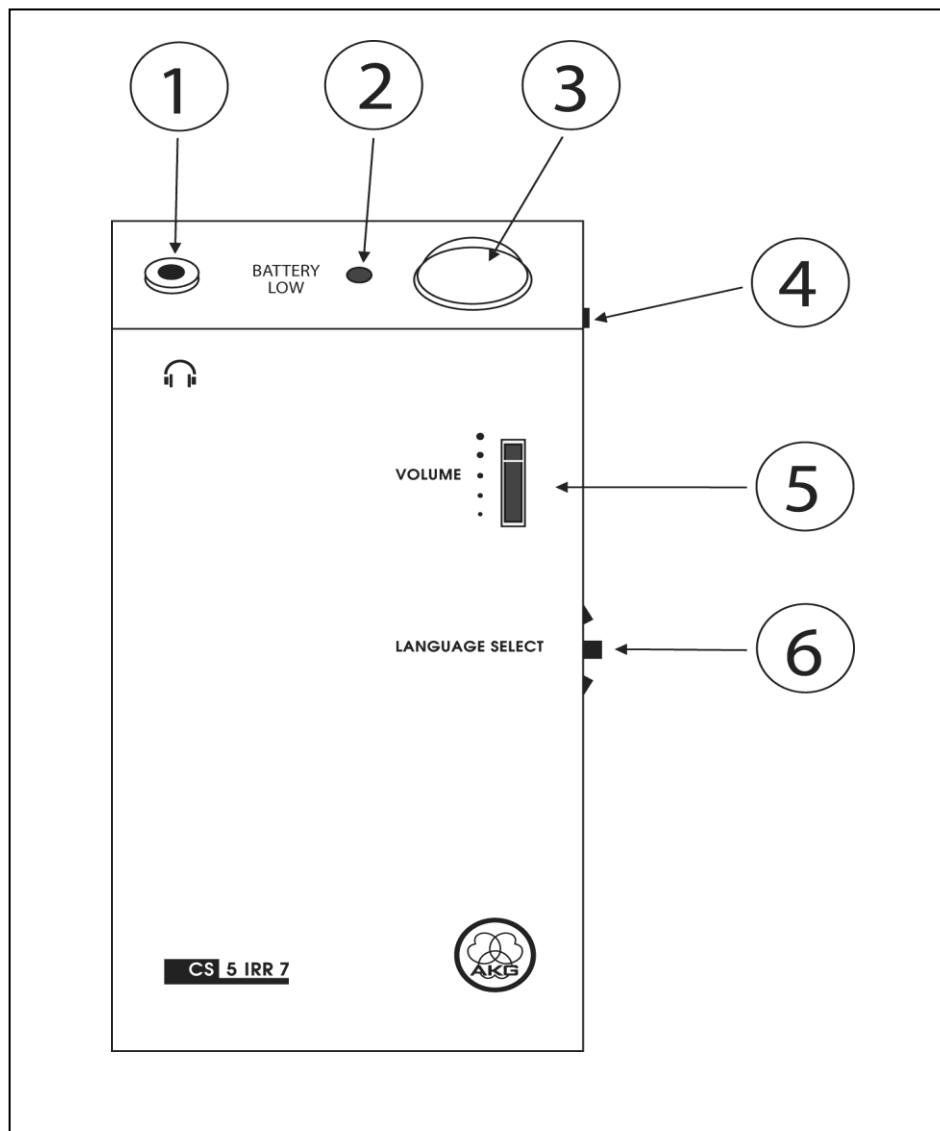

Fig. 10: Front and top panels of the CS5 IRR 7 infrared receiver.
Fig.10 on
- (Refer to fig. 10 on page 37.) Never cover the collecting lens (4) above the infrared receiving diode. Covering the lens (4) will cut the signal and may cause the receiver to switch off automatically.